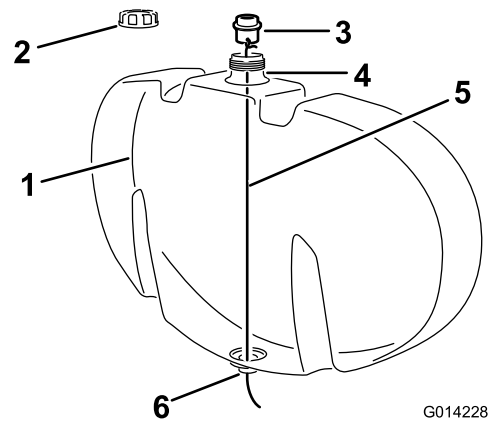

Figure 2
1. Attach a wire, longer than the tank is tall, to 1 of the retaining fork holes in the bulkhead fitting (Figure 2).
2. Remove the filler cap from the rinse tank (Figure 2).
3. Lower the wire through the opening in the tank-fill hole and route it through the open hole in the bottom of the tank (Figure 2).